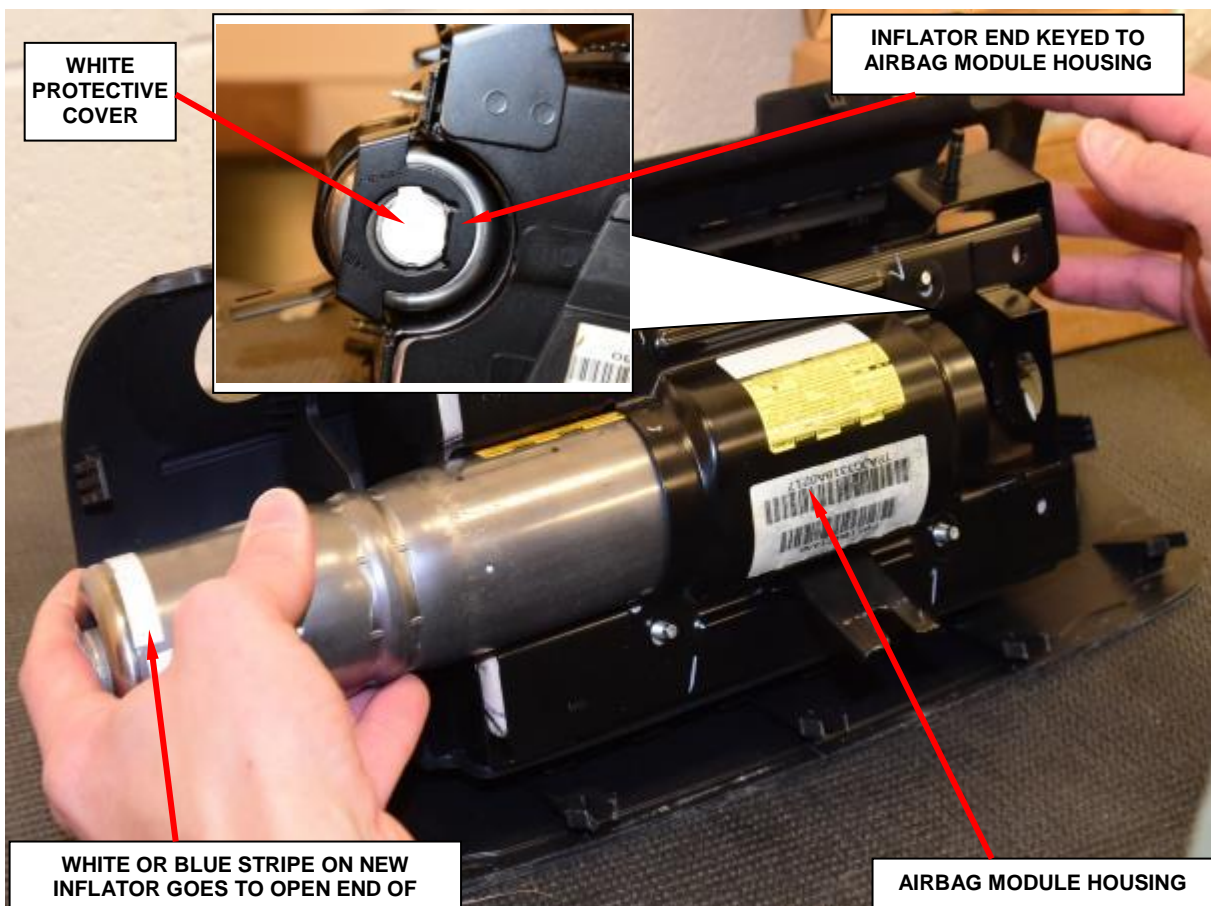

Figure 136 – Inflator Installation
NOTE: The inflator's key **MUST** line up with the housing's key (Figure 136).
NOTE: The inflator is keyed to fit into the housing. Ensure that when the new inflator is inserted, the keyed end goes in first (Figure 136).
- n. Slide the **NEW** inflator into the passenger airbag module housing. The keyed end is inserted first; therefore, the white stripe on the **NEW** inflator will be located at the open end (Figure 136).